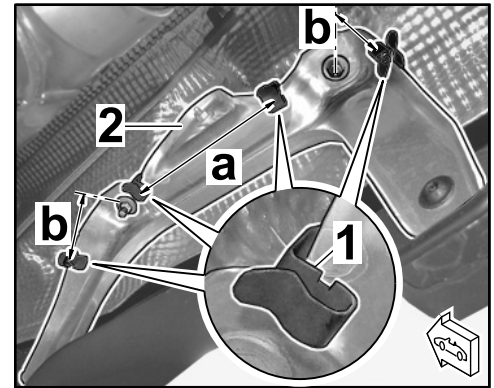

Figure 36
8.1 Fit four fixing clips ⇒ *Figure 36 -1-* on rear support ⇒ *Figure 36 -2-*. Check spacing!